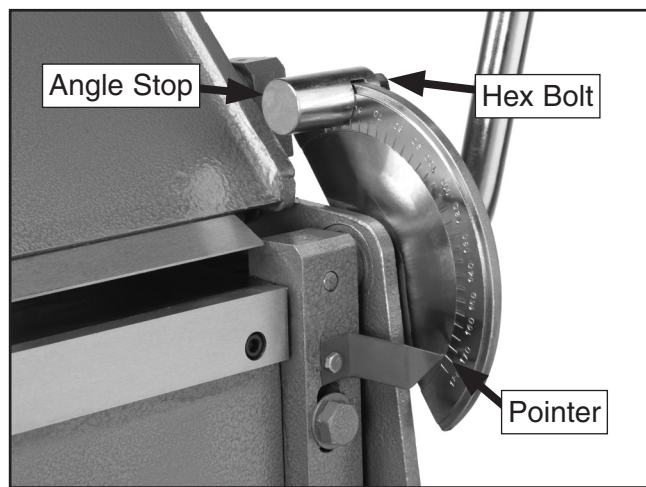

Figure 14. Angle stop.
1. Loosen the hex bolt on the angle stop to release it (**Figure 14**).